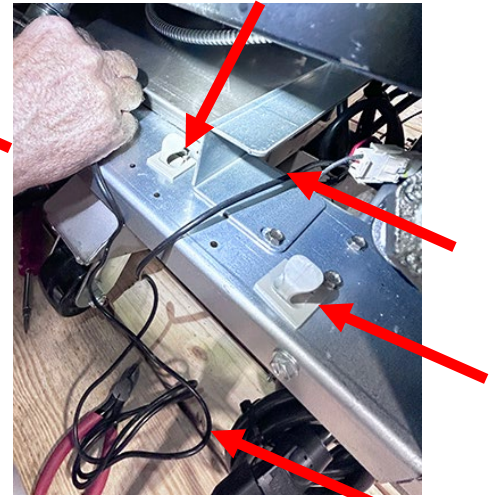

Figure 14
16. Cut the zip tie and open up the wire clips attaching the harness (see Figure 14).